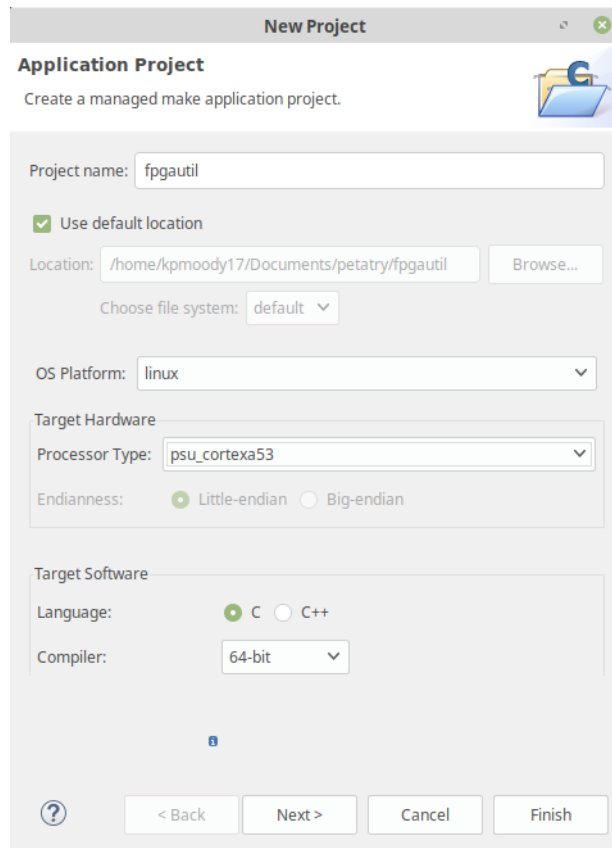

Figure 7
3. Next, we have to compile this source code to use it on the board, which can be done using Vitis or the Xilinx SDK. To do this in the SDK, first **open the IDE and set up an application project to operate on Linux, targeting the `psu_cortexa53` processor, and using C**, as shown in Figure 7.
6. In the console window, you should see “Build Finished” which indicates that the executable is ready in the Debug/ directory. Assuming your application project was called fpgautil as shown in Figure 7, **copy the fpgautil.elf executable from <project-root-directory>/fpgautil/Debug/ to a convenient location in the PetaLinux filesystem.**